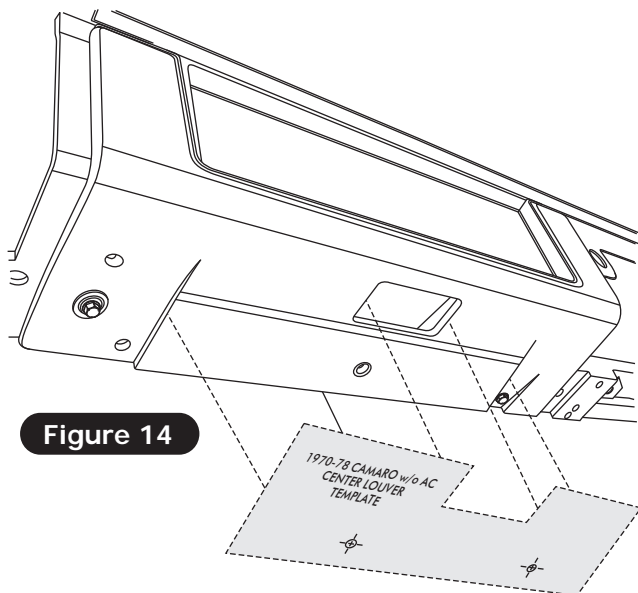

Figure 14
1. Cut out template provided on Page 27. Slide the template under the dash as shown in Figure 14, below. Align the left and right sides of the template with the crease in the dash as shown in Figures 14 & 14a, below. Align bottom edge of the template along the bottom edge of dash as shown in Figures 14 & 14a, below.